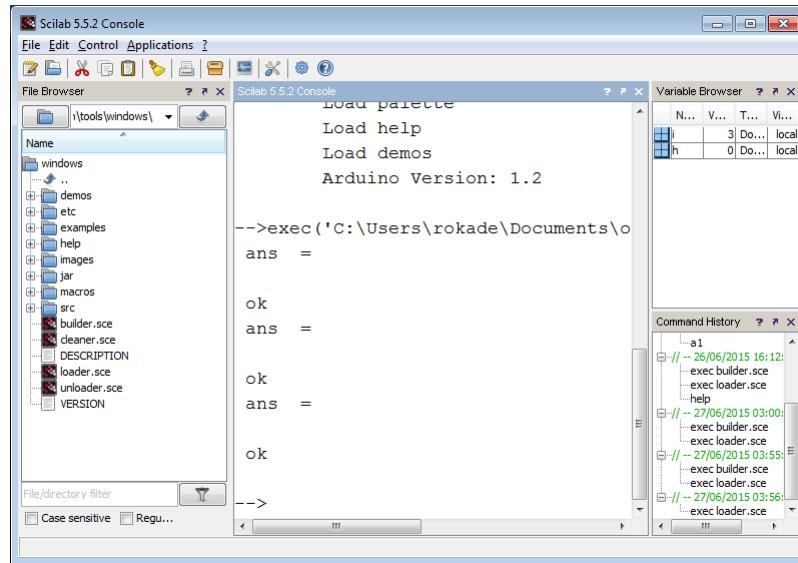

Figure 3.13: Scilab test code output
7. To execute this code, on the menu bar, click on the **Execute**, option. Then choose **File with no echo**. The output will appear on the Console as shown in Fig. 3.13. As shown in the figure, we see the response of this code as “ans = ” and “ok” three times. The code basically gives some input to Arduino three times and the program inside it returns “ok” three times. This code thus confirms the working of the Scilab-Arduino toolbox. The code also confirms that the firmware inside the Arduino is correct. It is alright if one or two of the attempts out of three give a blank response. But all the three responses certainly should not be blank⁵.